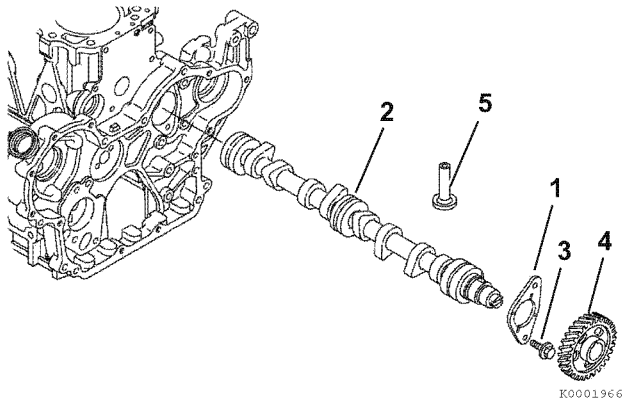

Figure 6-50
- Remove the two bolts (Figure 6-50, (3)) retaining the camshaft thrust plate (Figure 6-50, (1)).
- Rotate the engine in the engine stand so that gravity causes the tappets (Figure 6-50, (5)) to drop away from the camshaft lobes.
- Slowly pull the camshaft (Figure 6-50, (2)) assembly out of the engine being careful not to damage the front camshaft bushing.
- Remove the camshaft drive gear (Figure 6-50, (4)) only if the gear or camshaft require replacement. Use a knife-edge puller and a press to remove the gear. The gear is a shrink-fit and will need to be heated to 356 - 392 °F (180 - 200 °C) to remove.